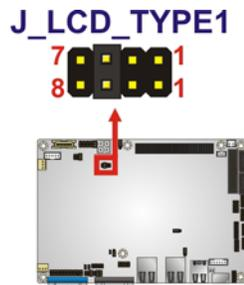

Figure 4-9: LVDS Screen Resolution Jumper Locations
- Jumper Location:** See Figure 4-9